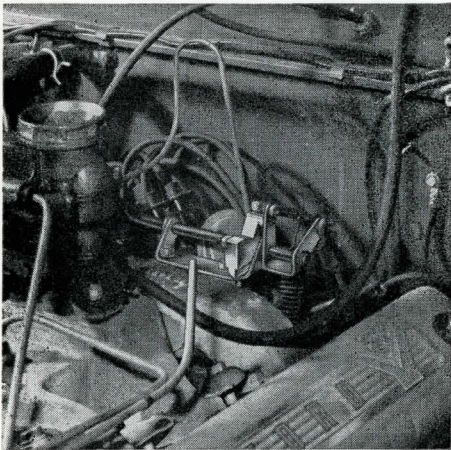

Figure 31
Fig. 31. The upper pin in the adjustment tool should freely enter the hole in the accelerator cross shaft lever. (On trucks the pin on the lower end of the tool is used). See Fig. 31 and 32.
3. Insert Throttle Linkage Gauge (AT-61) through the three holes in accelerator shaft assembly to lock it in position. Fig. 31.